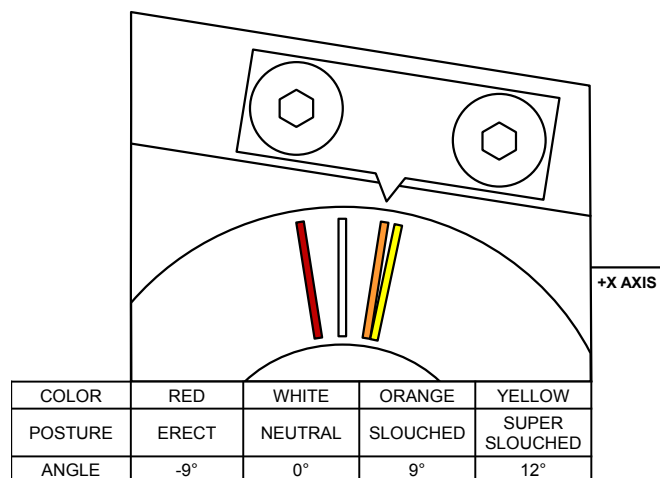
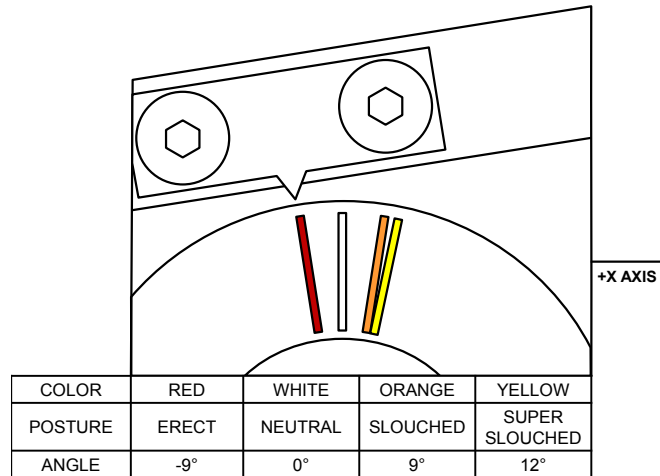

Figure 5-32. Lumbar spine pitch change assembly (472-3670) posture settings. Diagram indicates the “slouched” position.
Figure 5-33. Lumbar spine pitch change assembly (472-3670) posture settings. Diagram indicates the “erect” position.
- 5.3.1.4 Manipulate the upper portion of the spine to achieve the desired posture setting, as shown in either Figure 5-32 or Figure 5-33.